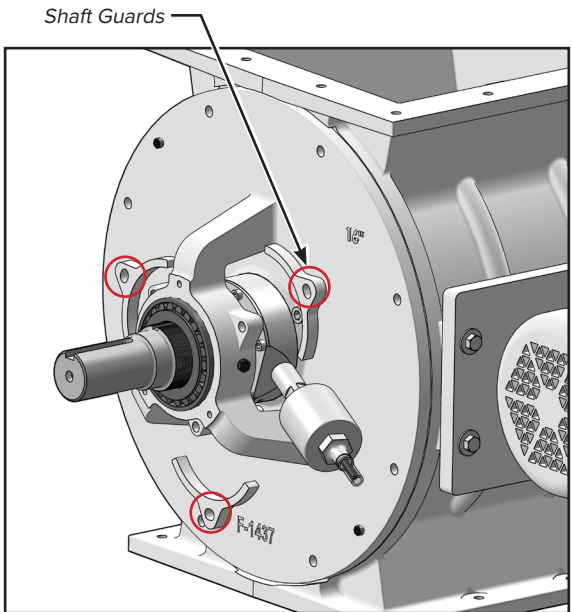

FIGURE 16
- 4. Remove shaft guards to gain access to set screws (figure 16).
- 20. Reinstall shaft guards (figure 16).